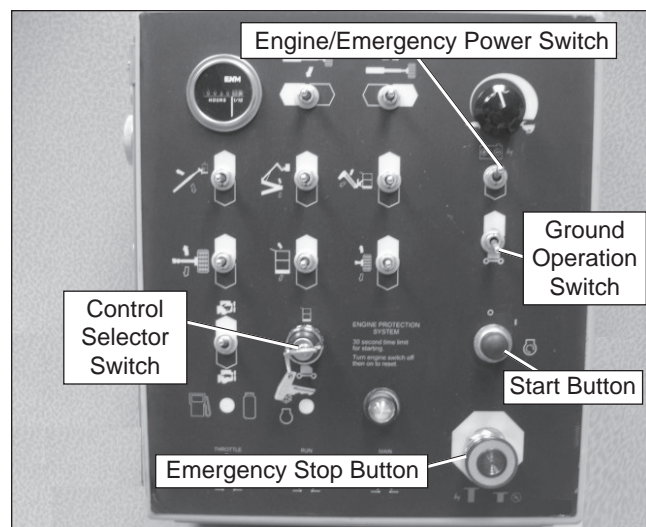

Figure 8.2 – Lower Controls
1. Pull the emergency stop button (refer to Figure 8.2) outward. Insert the key in the control selector and turn the switch to the lower control the position.